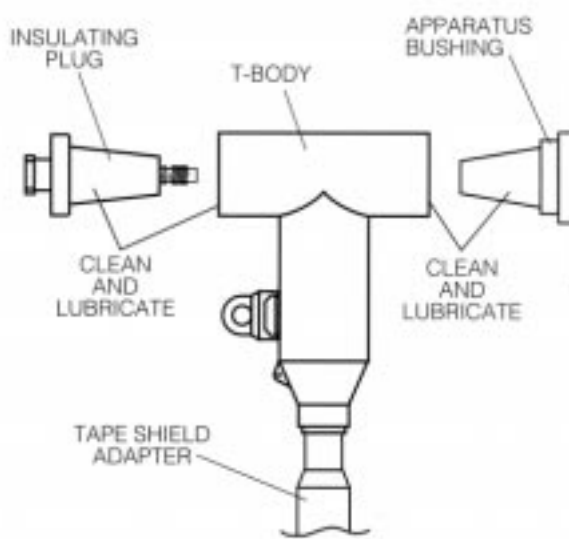

Figure 17.
- Clean and lubricate mating interfaces of T-Body and apparatus bushing with lubricant supplied. (Refer to Figure 17.)